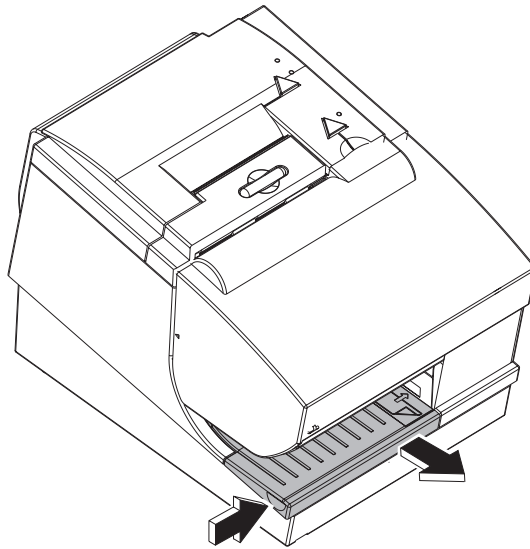

Figure 18. Removing the flipper door (lower document insert cover)
1. Lift up the left front corner of the flipper door (document insert cover) and pull the cover from the printer (see Figure 18).